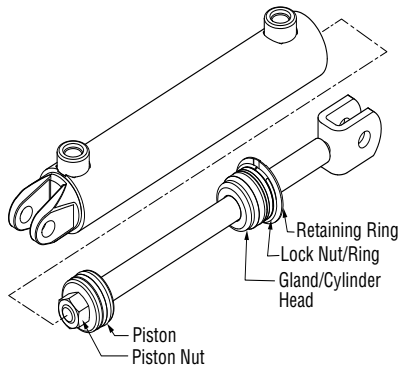

Figure 5-4, Rod Assembly
8. Remove the piston retaining nut and remove the piston. (Figure 5-4)